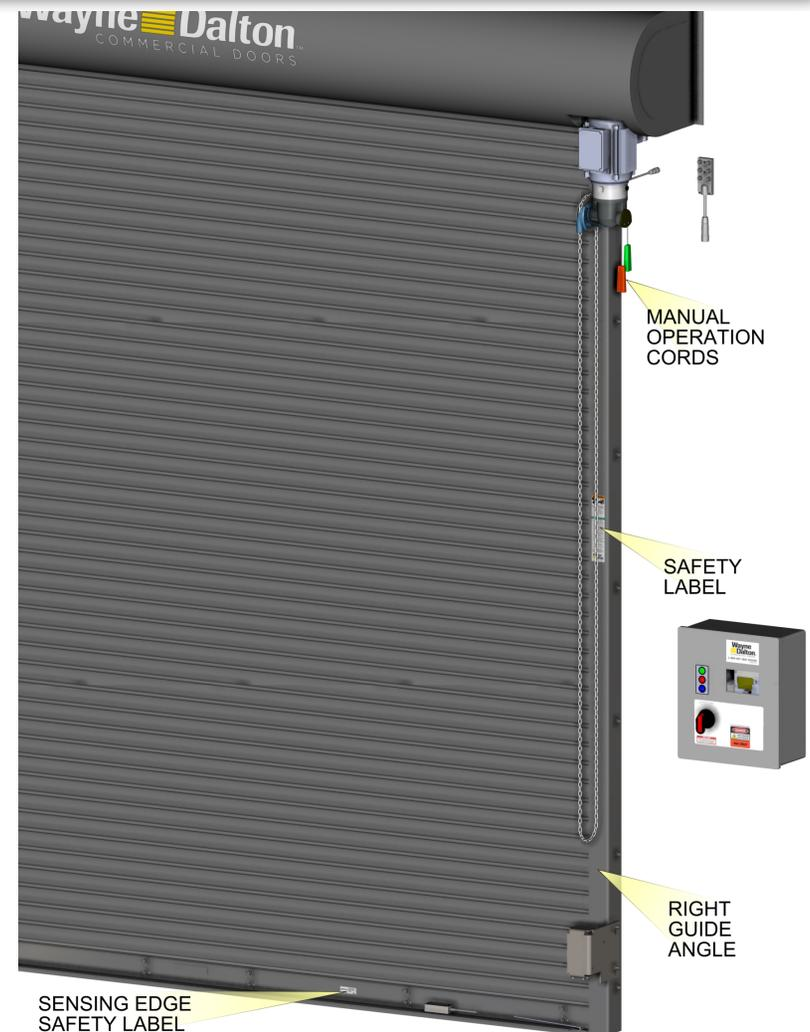

Fig 4-V
- B. Place the hood over the hood bands or straps on the headplates (and, if provided, hood supports) and **against** the wall, **Fig. 4-W**.